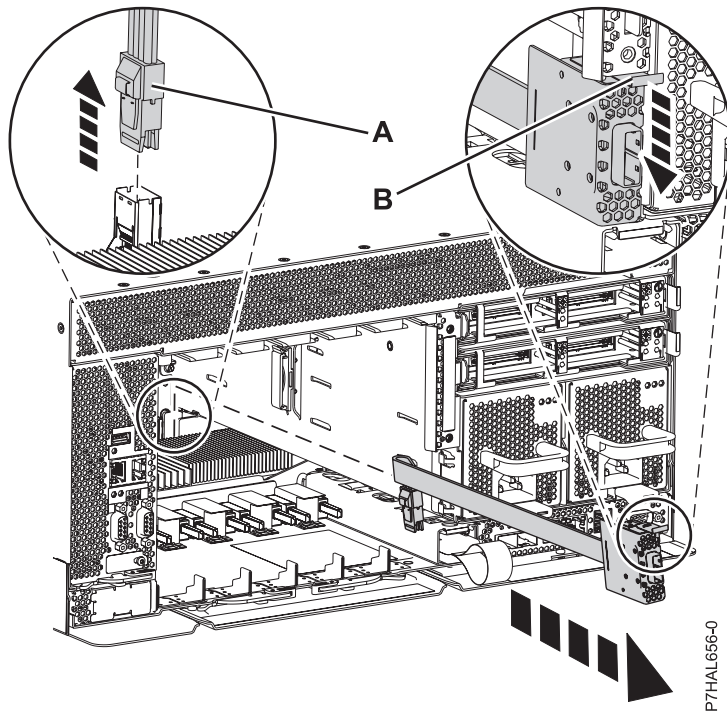

Figure 50. Removing the SAS cable
4. Press the side tab and pull the SAS shroud (**A**) out of the SAS connection port on the system backplane, as shown in Figure 50 on page 84.